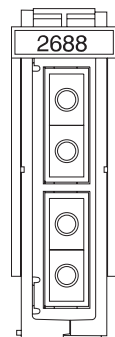

Figure 25. 2688 OLP card
2. Locate an available 2688 OLP card (Figure 25 on page 21) on your system unit.